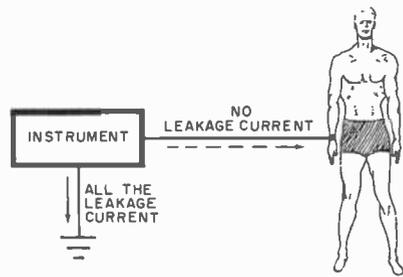

Fig. 3. Ungrounding patient eliminates body current path, but antenna effect returns, making readings useless.
It is clear that grounding the patient and the instrument is not the answer for up-to-date hospital safety. What is needed is some method of operating the instrument without having to ground the patient at all as in Fig. 3. This arrangement eliminates the path to ground through the patient's body so that he would be completely protected against leakage from the instrument.
**A Better Way.** There is one big drawback to the arrangement shown in Fig. 3. It will not work! Remember that if the patient is not grounded, his body acts like an antenna and picks up interference. To make this setup practical, the patient's body must be brought to ground potential without actually connecting him to ground.